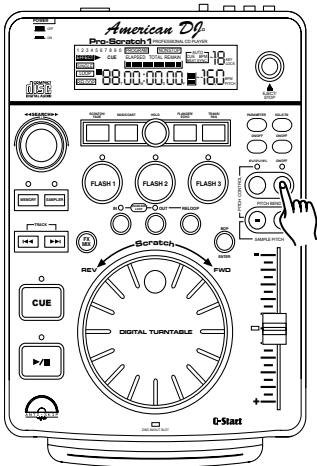

Figure 39
Adjusting the Pitch Slider's Range (17): You may change the pitch slider's (17) operating range. To change the operating range be sure the pitch function is turned on, see figure 39. The pitch percentage can be changed between 8%, 12%, and 16%. 8% will allow the least amount of pitch manipulation and 16% will allow the most amount of pitch manipulation. To adjust to the different values tap the 8% 12% 16% button (23). The LED above the **PITCH PERCENTAGE BUTTON** will indicate which pitch percentage mode you are in by, glowing green for 8%, glowing orange for 12%, or glowing red for 16%. Note, the pitch percentage must be activated to get a LED reading.